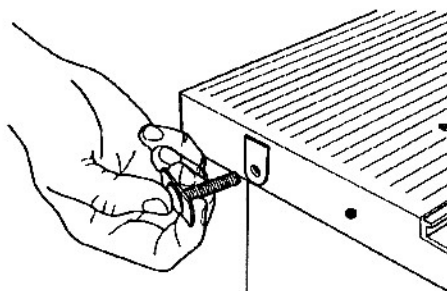

Fig. A-31
37. Insert the carriage bolt into the first hole on the left front edge of the table, as demonstrated in Fig. A-31.